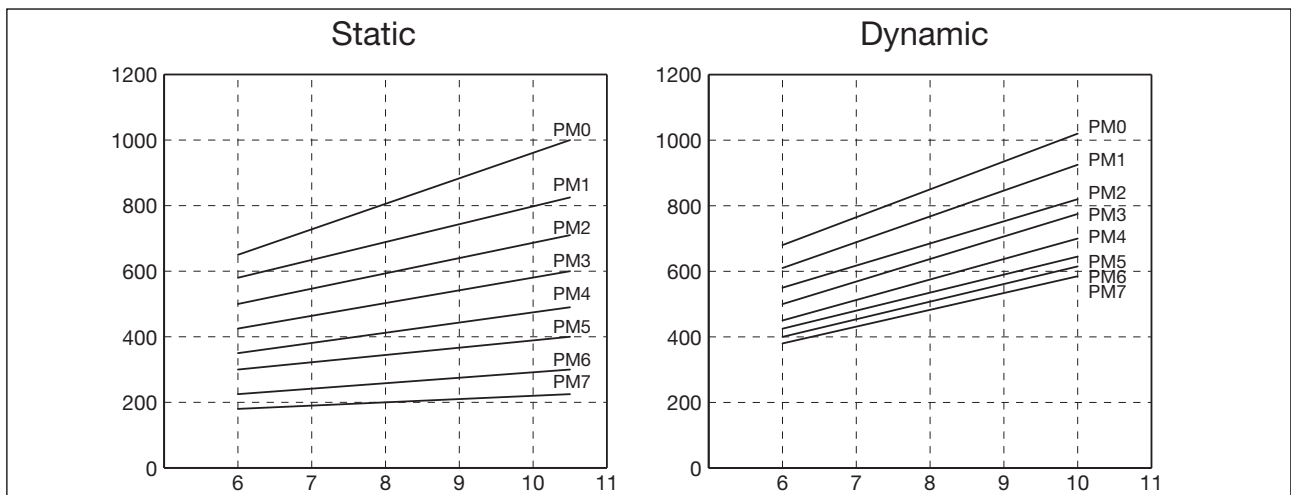

Figure 10. Static and dynamic power consumption in active mode vs VBAT (VDD=5.0V).
- Power mode : The device can be set in either power mode 0-2 for full ADSL transmission. In the remaining power modes (3-7), ADSL transmission is also possible, but with limited performance (could be used for example on short lines or lines which are very noisy or when no data is sent). See figure 10.